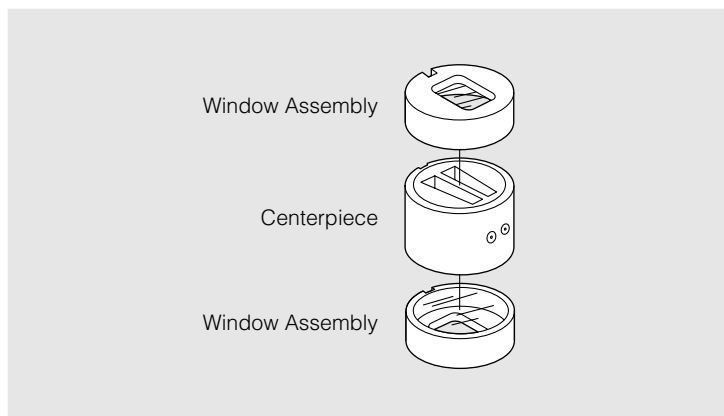
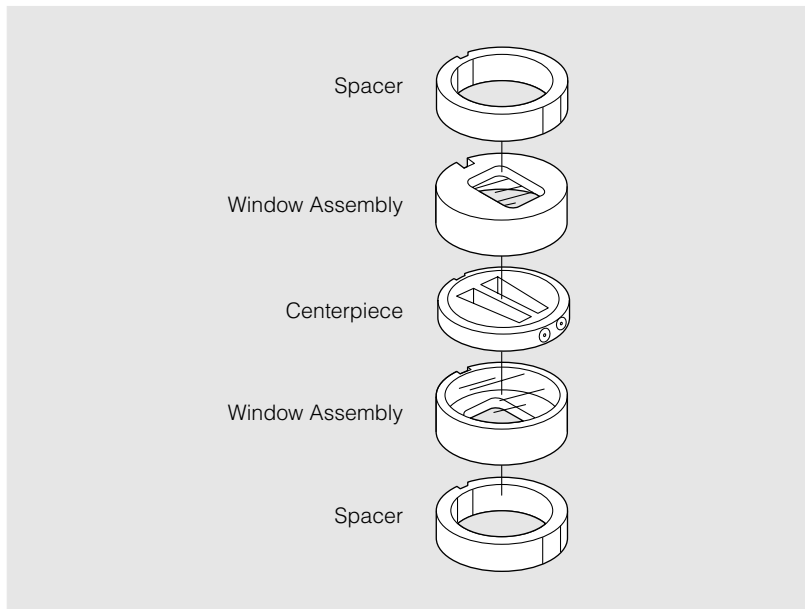

Figure 2-2. Stacking 12-mm Centerpiece and Window Assemblies
Figure 2-3. Stacking 3-mm Centerpiece, Window Assemblies, and Spacers
- b. With the keyways aligned, stack the components in this order: window assembly on the bottom (window up), centerpiece in the middle (capillaries facing down in synthetic boundary centerpieces), and window assembly on top (window down); see Figure 2-2 or Figure 2-3.